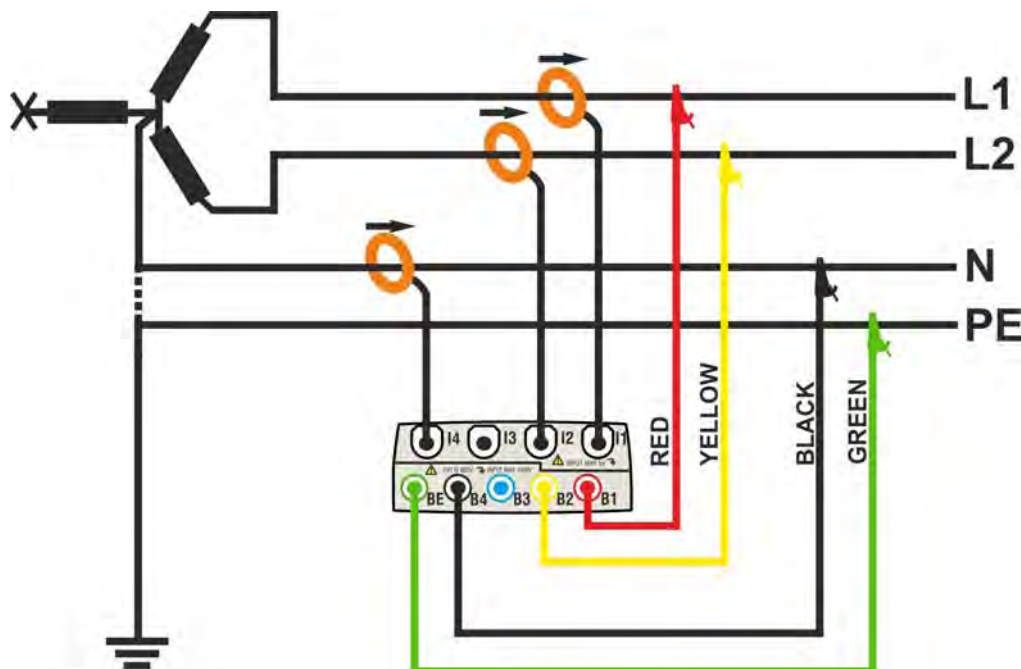

Fig. 145: Meter connection in a two phase 3-wire 3POY system – ENG_UK type
2. Connect voltage test leads on Phases L1, L2, N and PE cables considering the colours as shown in Fig. 145
3. Connect the transducer current clamps on Phase L1, L2, N cables as shown in Fig. 145 respecting the clamp's arrow direction indicating the current standard sequence from generator to load. **On Real Time Values' section screens (selecting a 3 wire system preliminarily) always verify the positive value of Active Power and the power factor relative to load which should be normally inductive before starting a recording.** Reverse the clamp by 180 degrees on cables in case of negative readings.